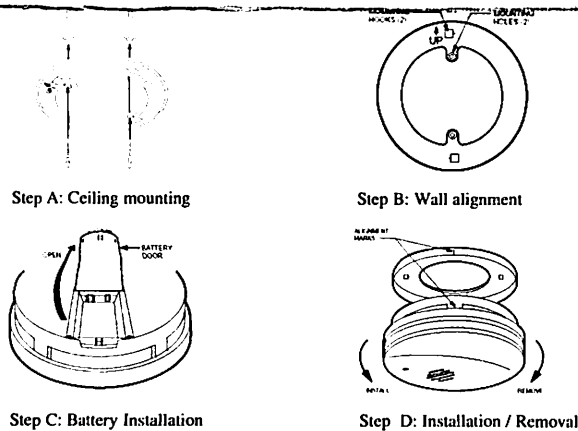

Figure 2: Installation Instructions
(See steps A & B in figure 2)
9.1 To replace the battery remove the alarm from the mounting plate by rotating the alarm in the direction of the "OFF" arrow on the cover. (see Figure 2, Step D).